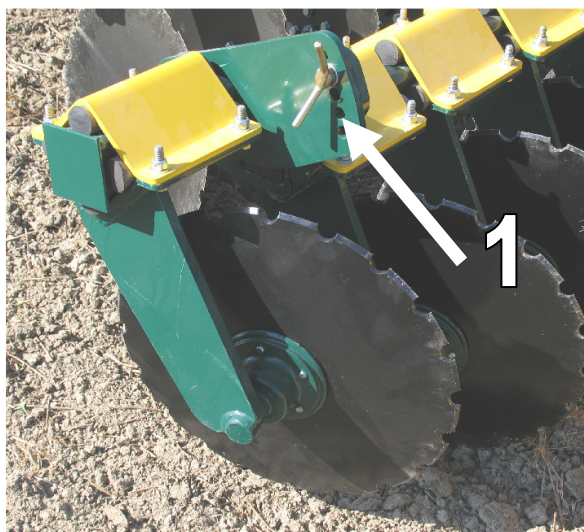

Figure 3. Adjusting the levelling disc
The height of the levelling disc on the left side of the disc cultivator can be adjusted. Adjust the levelling disc in such a way that no mounds or trenches are formed between passes, which leaves the surface of the field as even as possible. The adjustment can be made by adjusting the levelling disc's adjustment bolt (Figure 3, item 1.). The adjustment includes ten individual height positions. The cultivation result is improved by completing repeated runs on cultivated soil. In order to reduce the total width for road transport, the levelling disc of the DiscMaster 400 model **must be detached and placed in the transport mount**. In the DiscMaster 350 and 300 models, it is advisable to place the levelling disc in the transport mount during road transport.